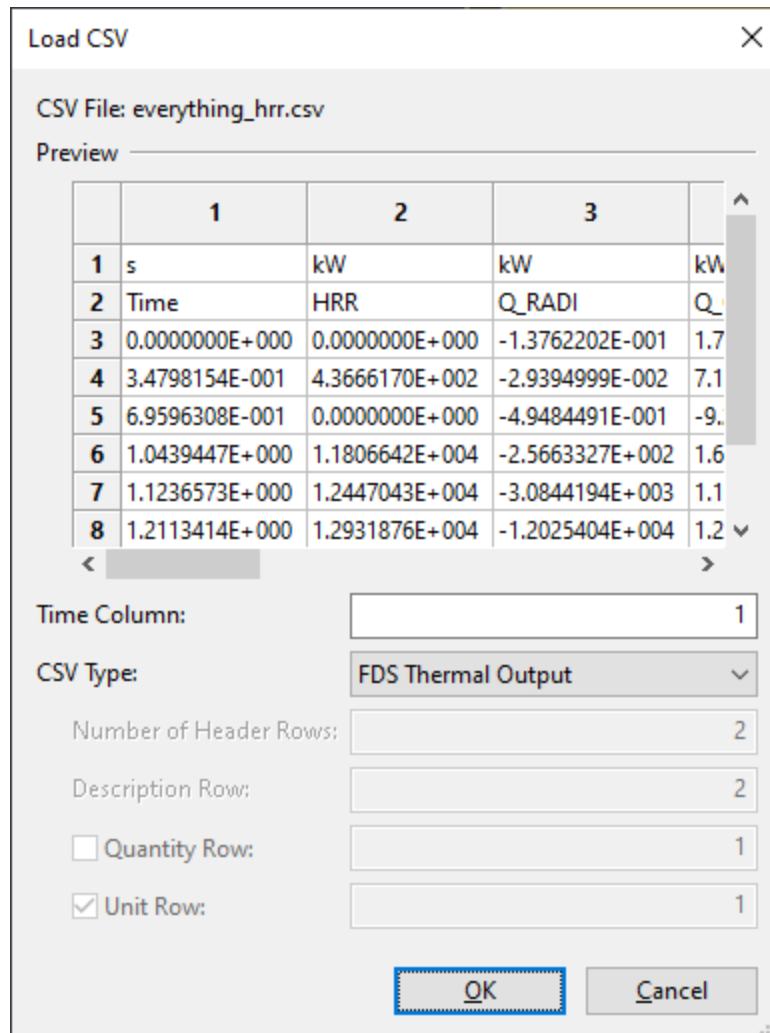

Figure 97. Load CSV Dialog
5. Enter the required information in the **Load CSV** dialog as shown in Figure 97 and click **OK**.